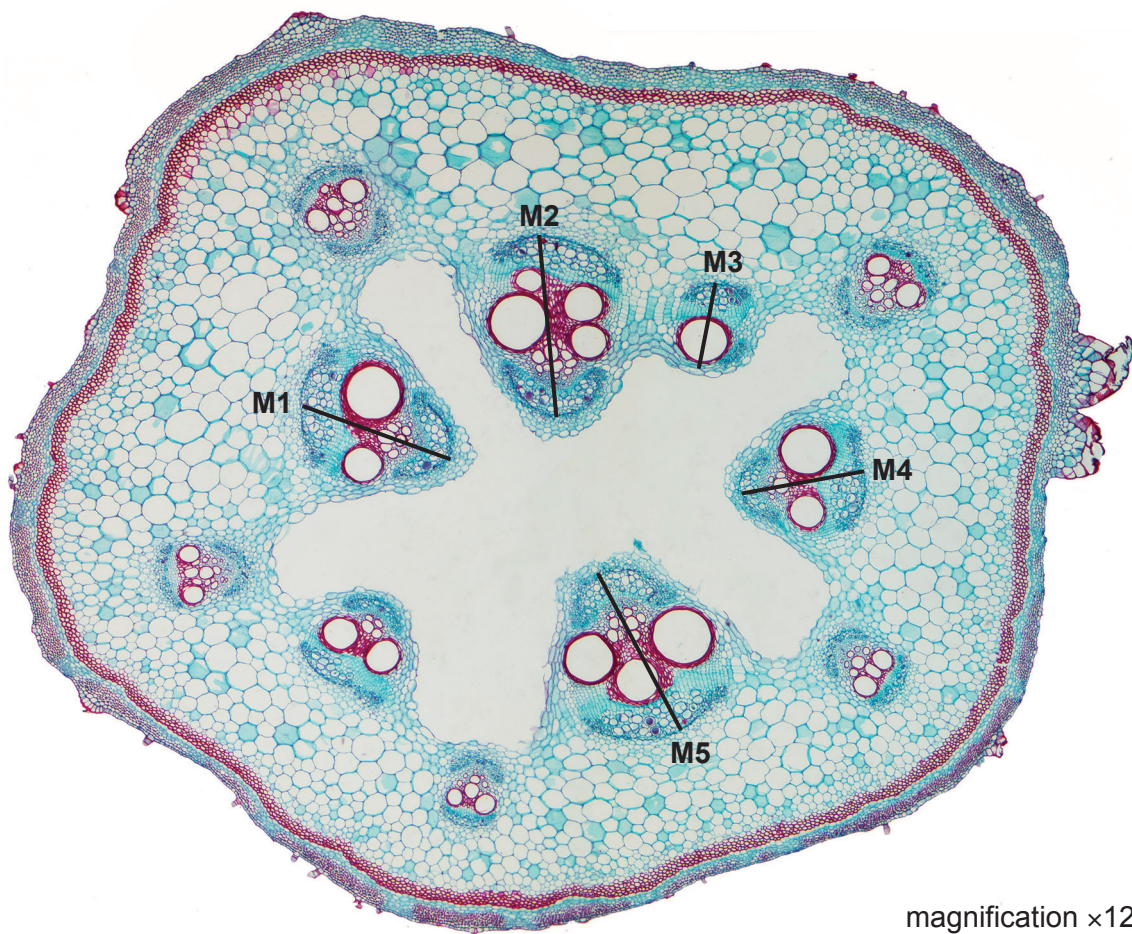

Fig. 2.2
(b) Fig. 2.2 is a photomicrograph of a stained transverse section of a stem from a different plant.
- (i) Measure the length of the vascular bundles using the lines **M1**, **M2**, **M3**, **M4** and **M5** in Fig. 2.2 **and** calculate the mean actual length of the vascular bundles.
(c) Fig. 2.3 is the same photomicrograph as that shown in Fig. 2.2.